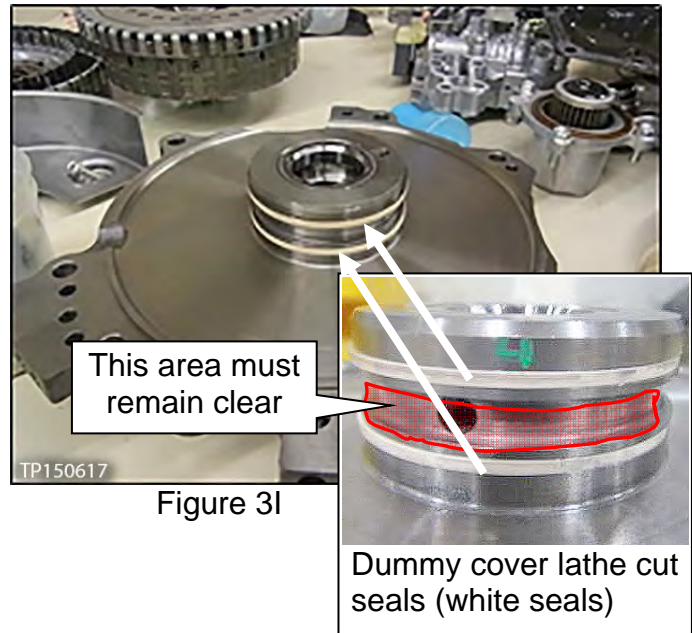

Figure 3I
- Apply petroleum jelly or equivalent to the dummy cover's lathe cut seals (Figure 3I) before installing the dummy cover to the CVT case.